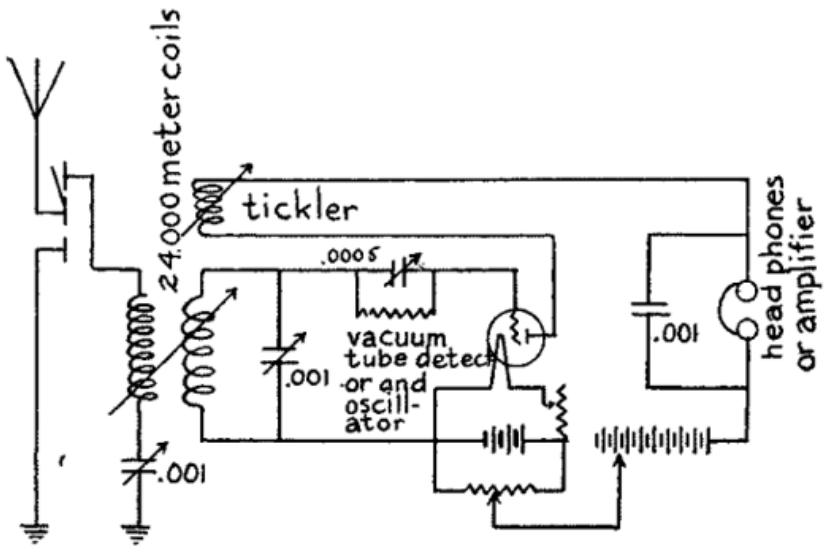

FIG. 60.—Wiring Diagram of Long Wave Antodyne, or Self-Heterodyne Receptor.
The Parts and Connections of an Autodyne, or Self-Heterodyne, Receiving Set.--For this long wave receiving set you will need: (1) one *variocoupler* with the primary coil wound on the stator and the secondary coil and tickler coil wound on the rotor, or you can use three honeycomb or other good compact coils of the longest wave you want to receive, a table of which is given in Chapter XII; (2) two *.001 mfd. variable condensers*; (3) one *.0005 mfd. variable condenser*; (4) one *.5 to 2 megohm grid leak resistance*; (5) one *vacuum tube detector*; (6) one *A battery*; (7) one *rheostat*; (8) one *B battery*; (9) one *potentiometer*; (10) one *.001 mfd. fixed condenser* and (11) one pair of *headphones*. For the two-step amplifier you must, of course, have besides the above parts the amplifier tubes, variable condensers, batteries rheostats, potentiometers and fixed condensers as explained in Chapter IX. The connections for the autodyne, or self-heterodyne, receiving set are shown in *Fig. 60*.